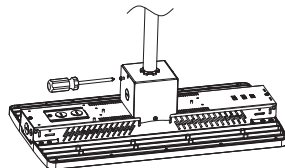

Figure 5
- Step4. Lock side brackets with screw driver (Figure 5).